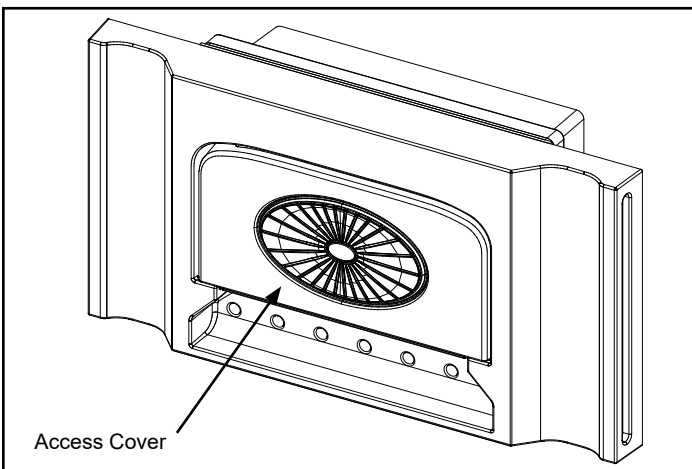

Figure 5.6 - Locate access cover.
1. Locate the access cover positioned at the rear center of the unit, Figure 5.6.